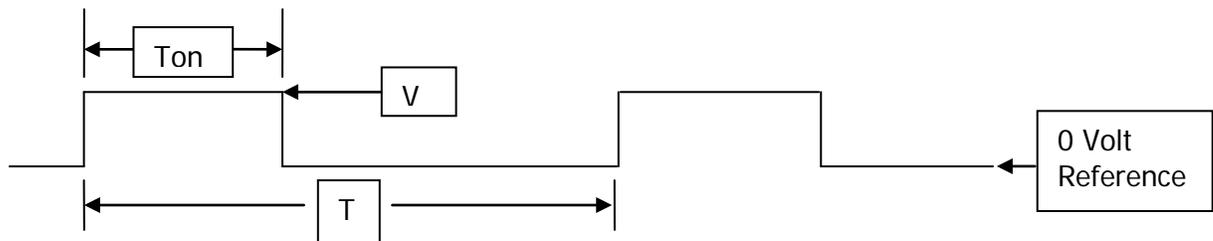

Figure 6. Schematic of a typical pulsed DC waveform produced by the HC-80.
Operating the HC-80 in Direct Current (DC) mode is relatively straightforward, with output waveforms easy to visualize by referencing the settings on the control panel. The output produced and sent to the anodes are variations of simple pulsed DC waveforms (Figure 6). The user can adjust the properties of the pulsed DC waveform by adjusting voltage, pulses per second, and duty cycle. NOTE: When operating in DC mode, the Box measures peak output voltage, current and power, not average. These peak values are displayed on the control panel.